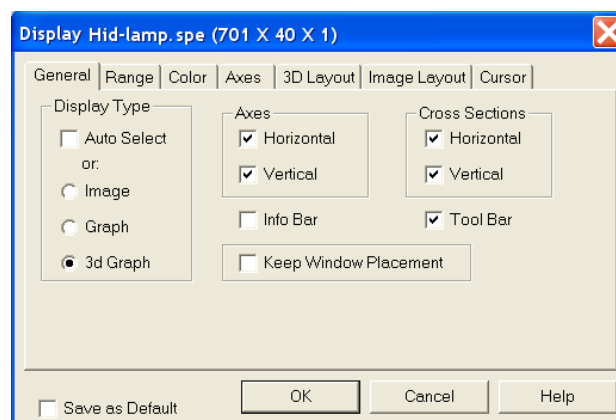

Figure 74. Display Layout dialog
4. Select **Layout** on the **Display** menu. The **Display Layout** dialog will open as shown in Figure 74.